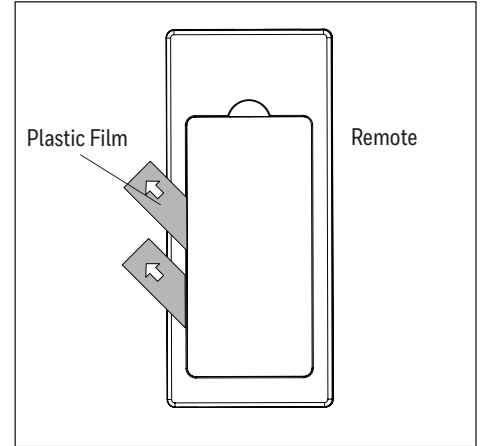

Figure 5.12
12. Batteries were preinstalled in the battery compartment of the remote. Pull the plastic film in the direction of the arrow to remove which will activate the batteries (Figure 5.12).